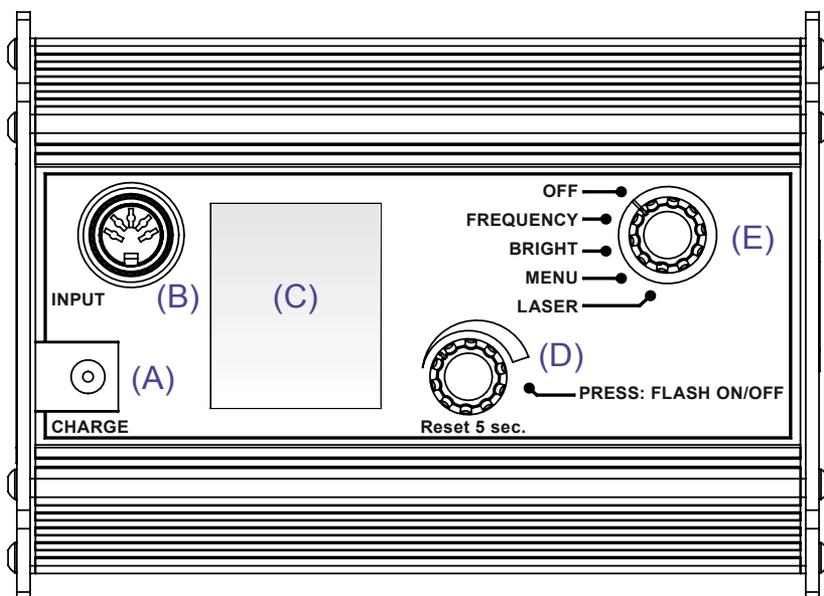

Fig.1 - Stroboscope QB-LED and QBS-LED
### 3.1 Connectors (see Fig. 1)
1. Charge the device by plugging the charger into the **CHARGE (A)** socket to the rear of the device (see Fig. 1)
2. Direct the device at a moving object and switch it on. Turn the selector switch (E) one notch to the left to **“FREQUENCY.”**